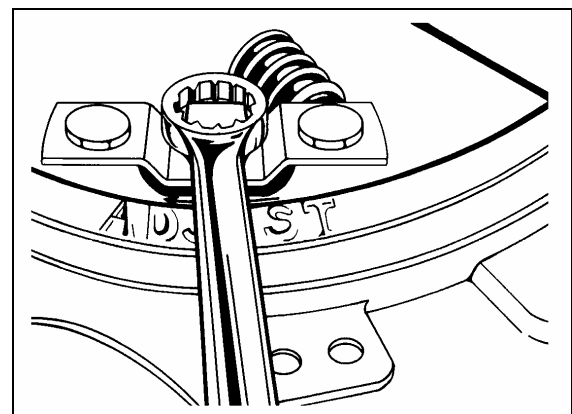

FIGURE 3: SQUARE HEAD BOLT
3. If clearance is incorrect, release the clutch by depressing the clutch pedal to end of pedal travel. Insert a 3/4" socket (12 points) or a 3/4" box-end wrench through the inspection hole. Depress square-head bolt to adjust clutch (Figs. 3 & 4).